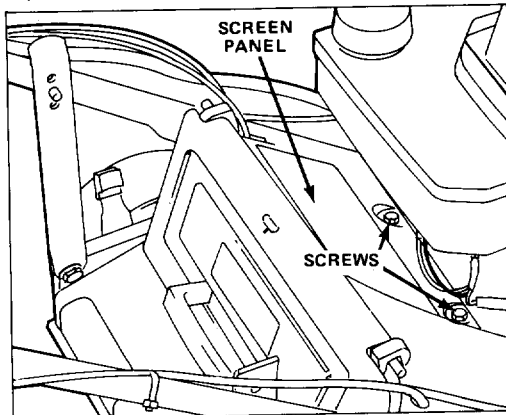

Figure 25
2. Remove (2) screws securing screen panel to top of mower housing (Fig. 25). Remove panel.
5. Remove screen panel and access cover on mower housing and clean around gear box and blade brake mechanism (Fig. 25 & 29).